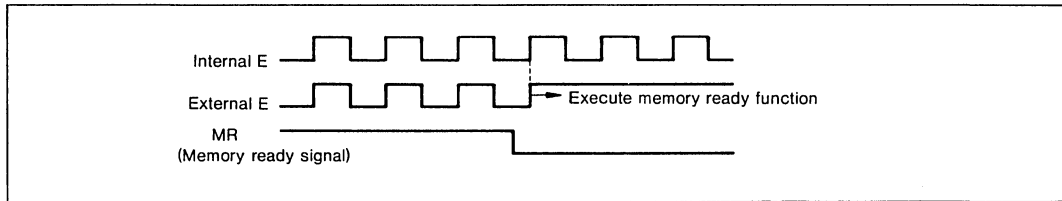

Figure III-8. Internal and External E Clocks
**Answer:** Internal E clock operates at normal frequency (figure III-8). Since the timer count and the SCI transfer rate are set by the internal E clock, they are not also affected by the memory ready function.